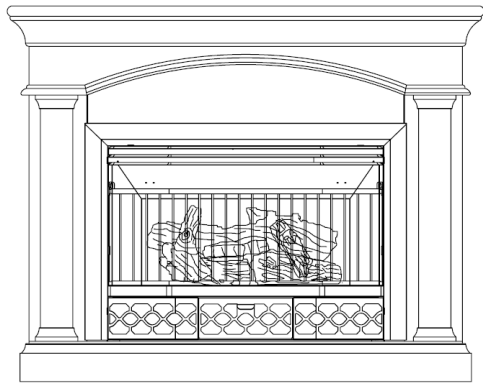

Figure 14
**STEP 1:** Push base into bottom of mantel, and cling to left side panel and right side panel. (Figure 14)